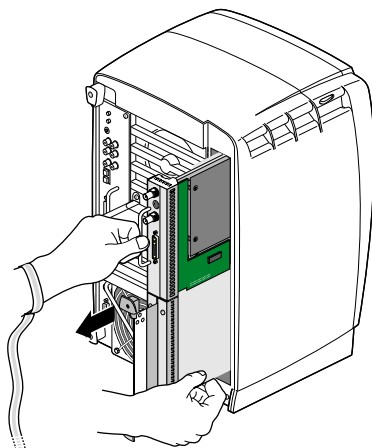

Figure 2-9 Removing the XIO Tri-Module
3. Grasp the XIO Tri-Module by the immovable handle, and support the base of the module as you remove it from the chassis, as shown in Figure 2-9.